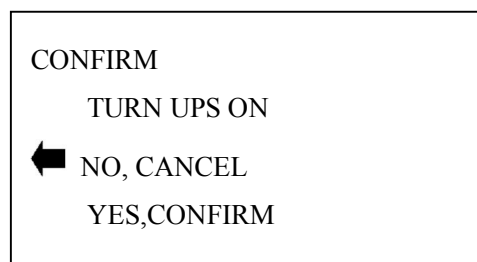

Fig.9.4
6. Press “↵” and choose “ON” . Confirm according to the LCD prompt message (Fig.9.4)
6. Press “↵” and choose “ON” . Confirm according to the LCD prompt message (Fig.9.4) .